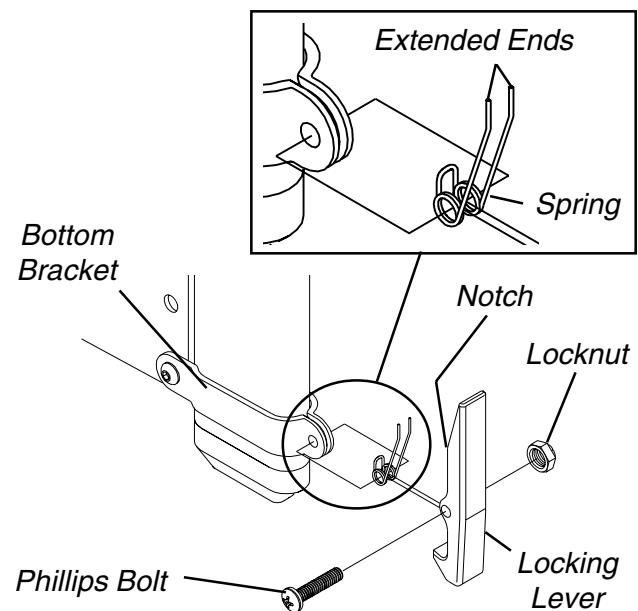

FIGURE 8 - REPLACING THE T-ARM LOCKING LEVER
REPLACING THE T-ARM LOCKING LEVER (FIGURE 8)
4. Position the spring on the bottom bracket as shown in FIGURE 8.